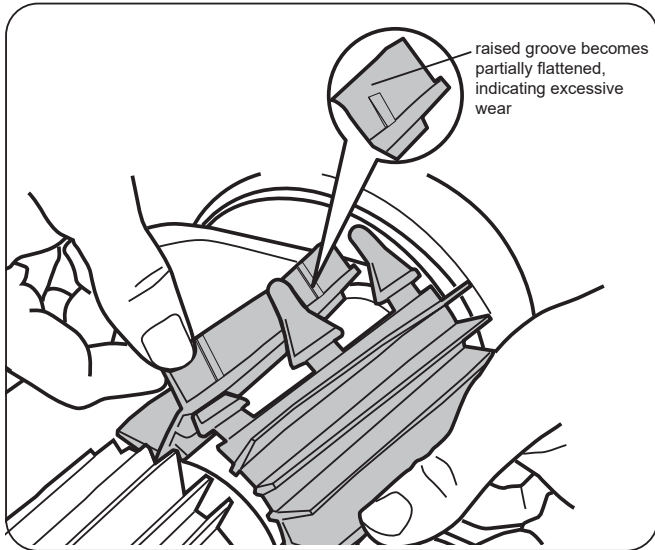

Figure 19. Worn Brush Indicator
The cleaner is fitted with a brush in front. There are "wear" indicators on the brush (Figure 19). To maintain cleaner performance at its best, replace the brush as soon as the wear indicator has been reached. Aqua Products recommends that you replace the brushes every two (2) years.